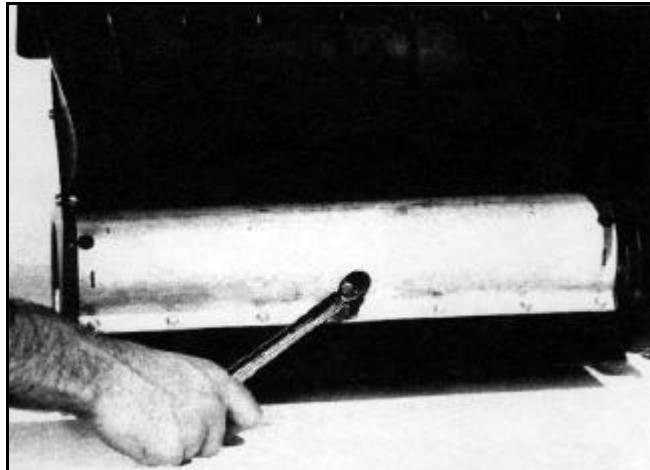

Figure 76
7. Assemble both paddles to the rotor halves. Torque each screw 15 in-lbs (Figure 76). Lastly, tighten the four self-tapping rotor location screws. (**CAUTION:** Do not overtorque screws, the threads may be damaged.)